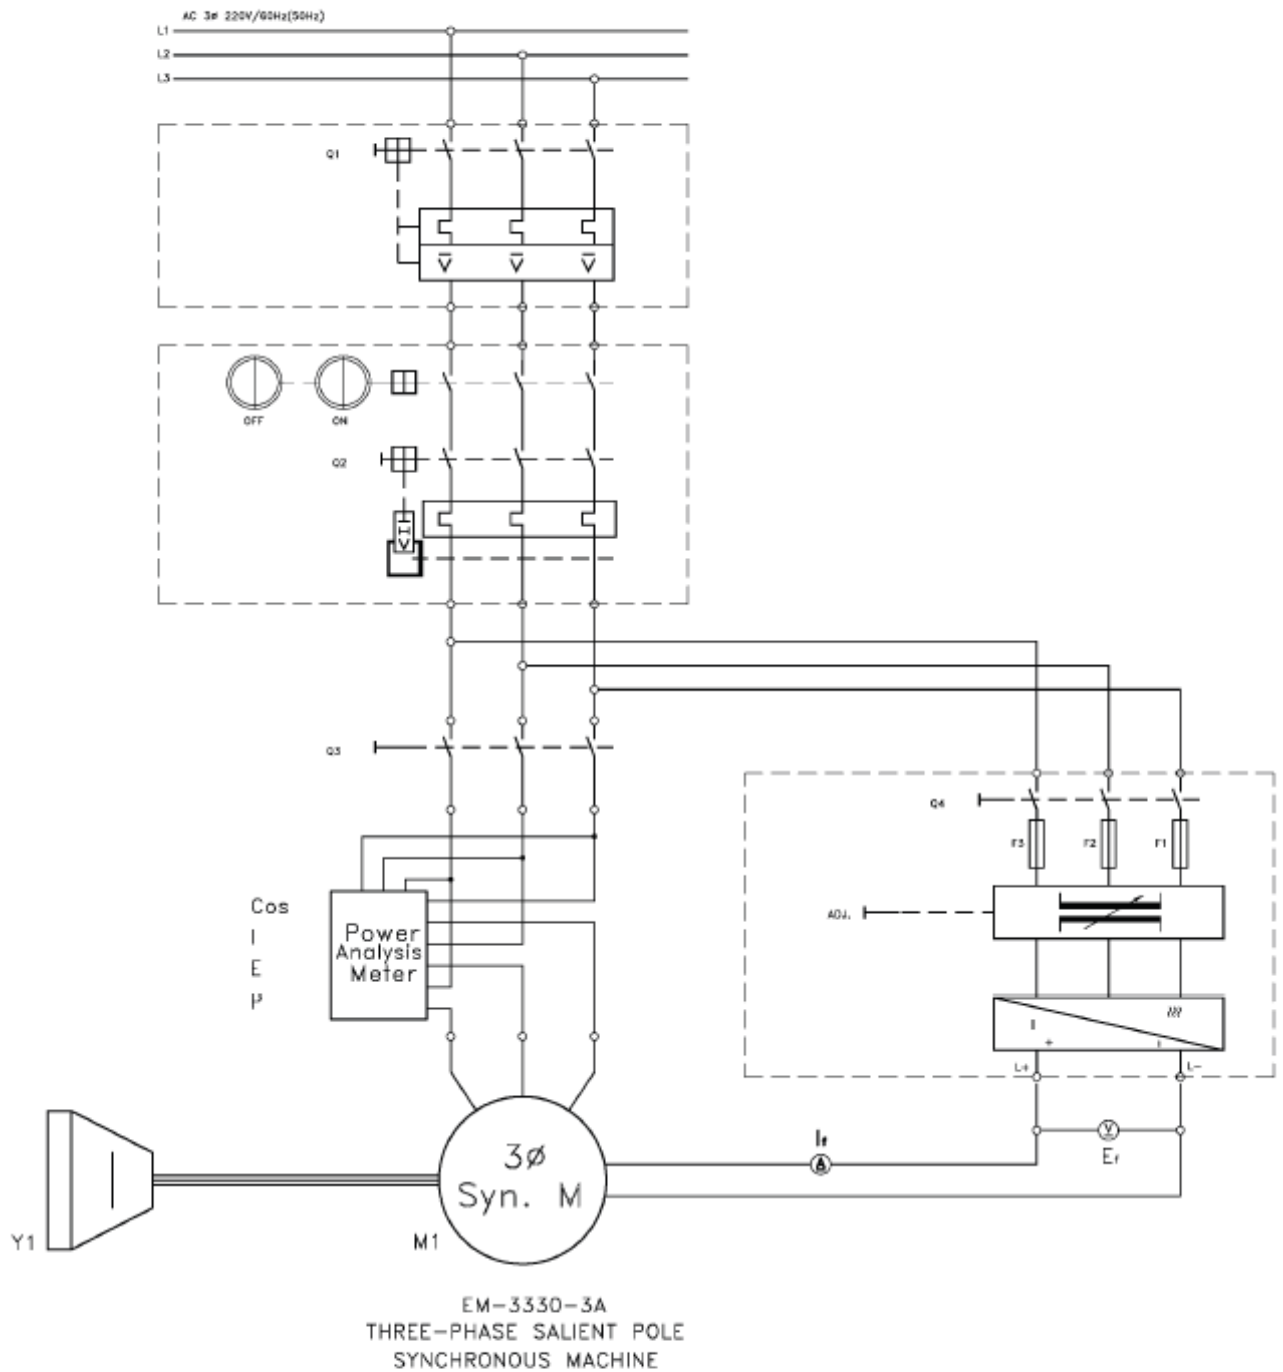
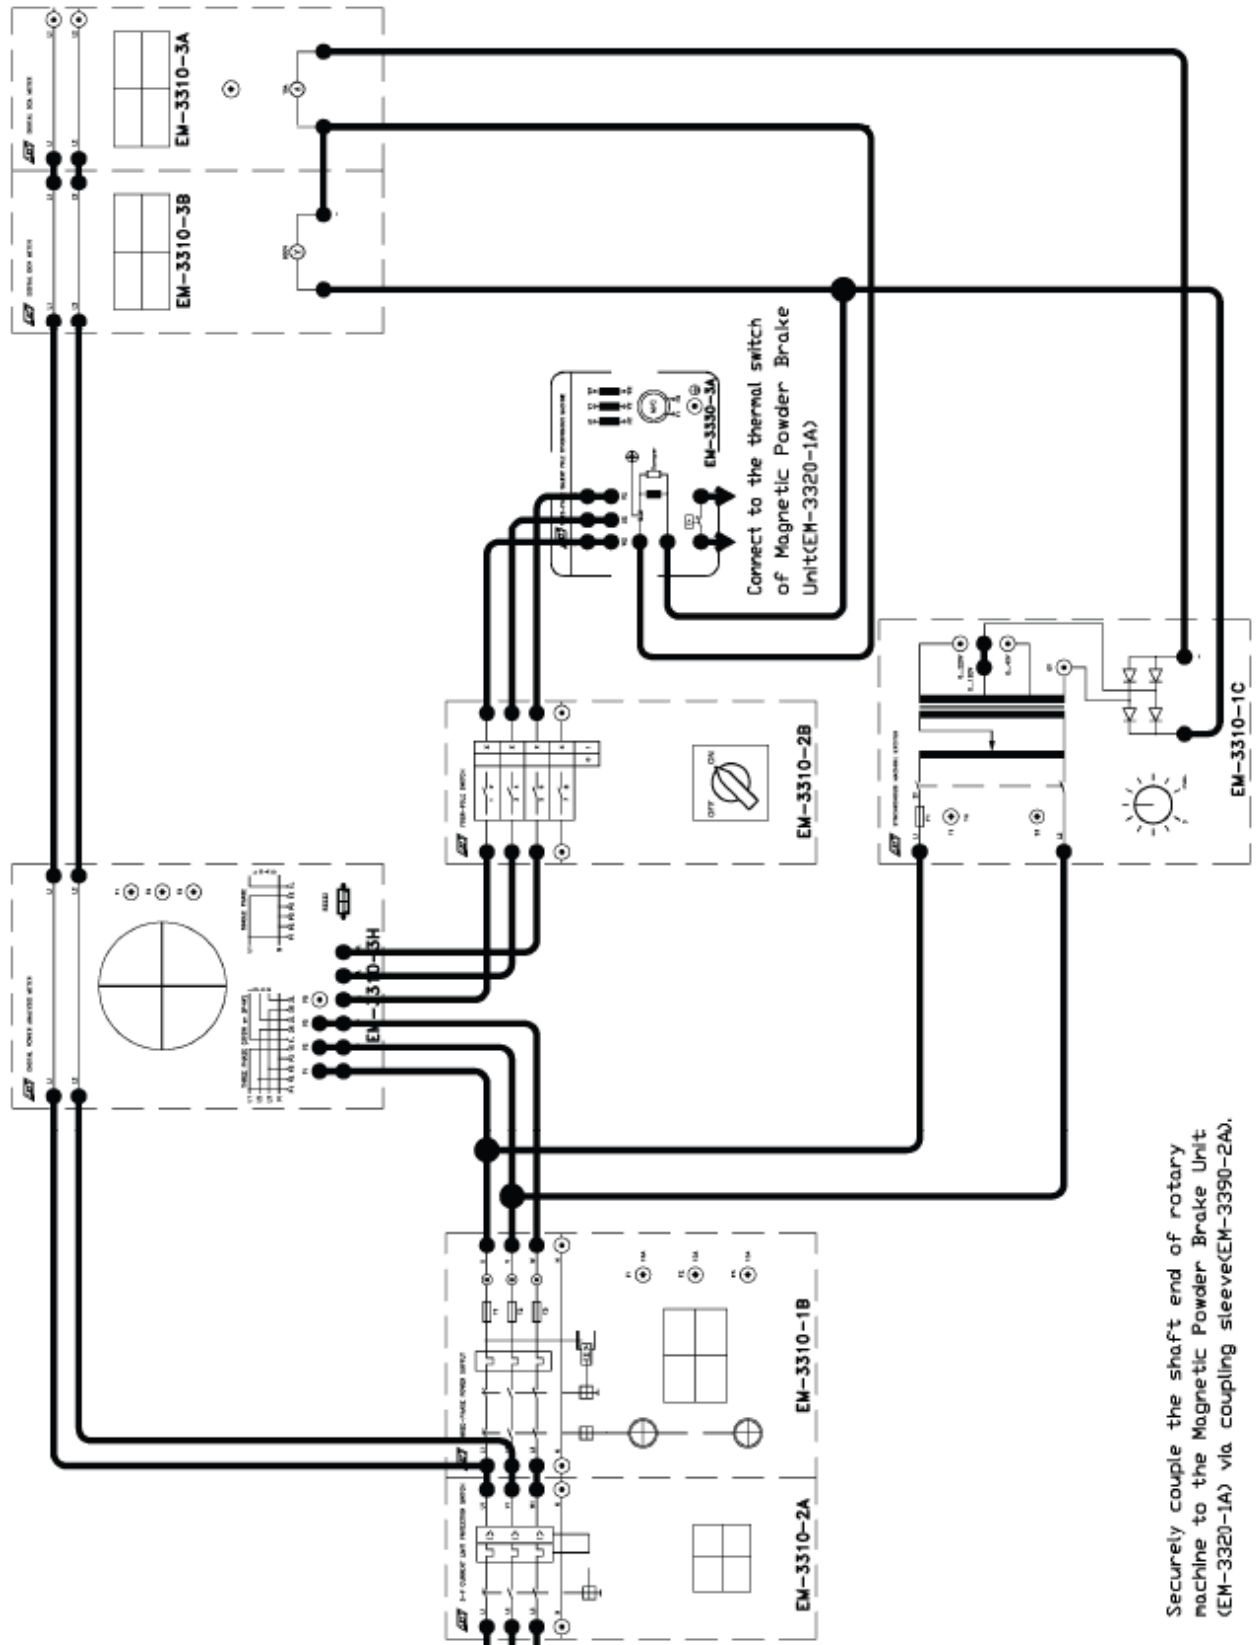

Fig. 14-2-1 Circuit diagram for excitation characteristic test
Fig. 14-2-2 Connection diagram for excitation characteristic test
2. Install the required Modules in the Experimental Frame. Construct the circuit in accordance with the circuit diagram in Fig. 14-2-1 and the connection diagram in Fig. 14-2-2. Have the instructor check your completed circuit. **Note:** The thermal switches of Three-phase Salient Pole Synchronous Motor and Magnetic Powder Brake Unit must be connected together.